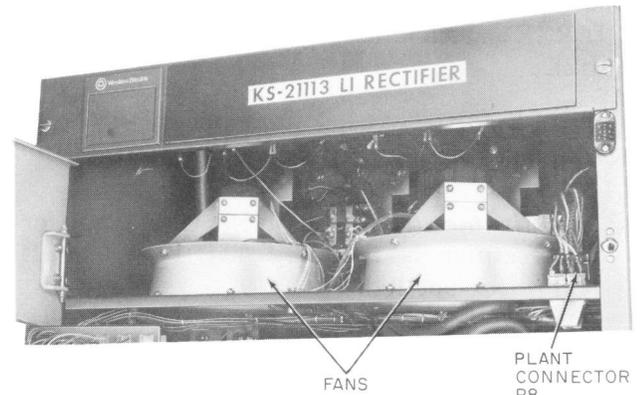
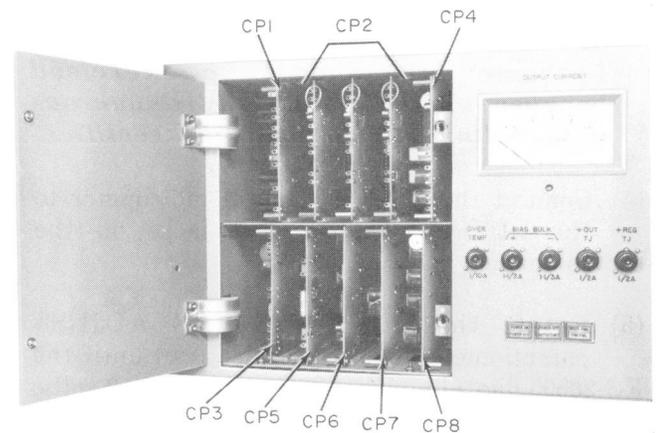

Fig. 3—KS-21113 Rectifier—Cover Removed
Fig. 4—KS-21113 Rectifier—Control Panel With Circuit Packs in Place
- (1) The POWER ON/POWER OFF switch is in the POWER OFF position.
- (2) The associated ALM and EXTERNAL CHARGE fuses are removed from the KS-21114 bay.
- (3) The associated ac circuit breaker in the KS-21115 bay is turned off.
(4) Remove the plant connector P8 (Fig. 3) from its cabinet mounted jack J8. Check for continuity between terminals 12 and 13 of jack J8. If continuity does not exist, press the POWER ON/POWER OFF switch on the rectifier and recheck for continuity. Continuity indicates that the POWER ON/POWER OFF switch is in the POWER OFF position. It should be left in the POWER OFF position.
(5) The required panel fuses are the proper value and are in their holders securely.
(6) Operate the fan circuit breakers, FAN 1 and FAN 2, to the ON position. The rectifier will not operate if these circuit breakers are in the open position.
(7) Rotate the OUTPUT VOLTS ADJUST potentiometer R302 two turns counterclockwise (ccw). This potentiometer is located on circuit card CP3.
(8) Verify that all circuit packs (Fig. 4) are inserted firmly in their respective holders.